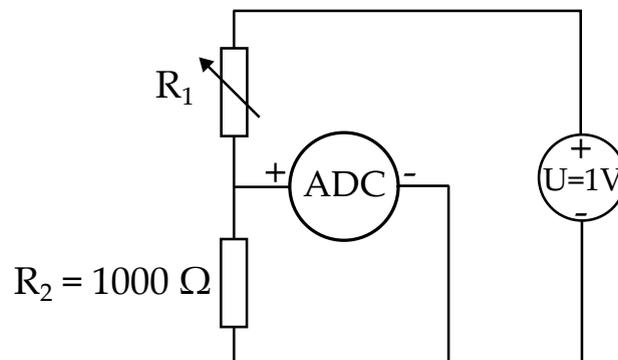

Figure 1: Analoge sensor readout circuit.
2. Figure 1 shows a circuit commonly used for the readout of analog sensors in robotics. R_1 is a resistive strain gauge with a resistance range of $3\text{ k}\Omega$ to $9\text{ k}\Omega$ depending on the amount of mechanical strain. The *Analog to Digital Converter* (ADC) is measuring voltage from + to the other terminal $-$.